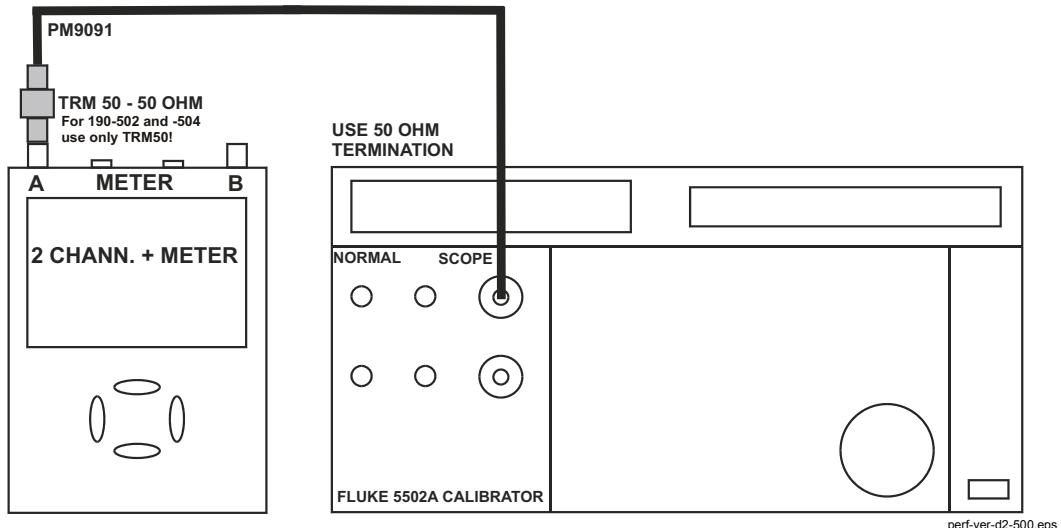

Figure 5-3. 5502A SCOPE Output to Test Tool Input A
6. Connect Ch. A of the Test Tool to the 5502A SCOPE output as shown in Figure 5-3. Use a 50Ω termination.
1. Connect Ch. A of the Test Tool to the 5502A as shown in Figure 5-3.